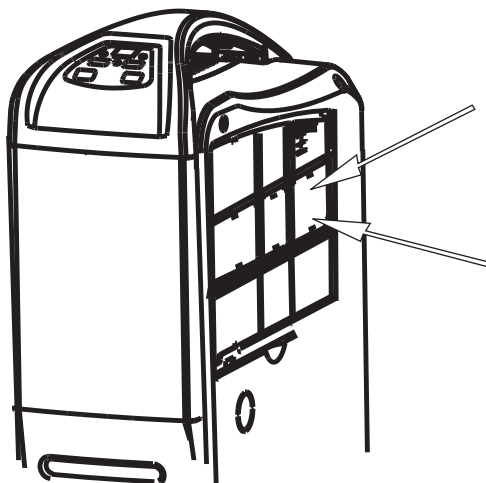

Fig.10c
- Insert the HEPA or Carbon filter within the lugs around the frame (Fig. 10c)